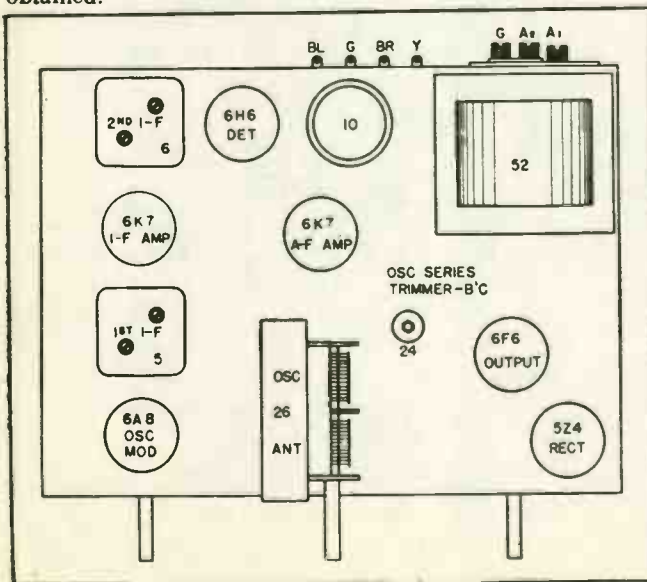

Fig. 2. Top View 655
- (e) Adjust both trimmers located on top of the 2nd I. F. transformer for maximum output. (Fig 2).